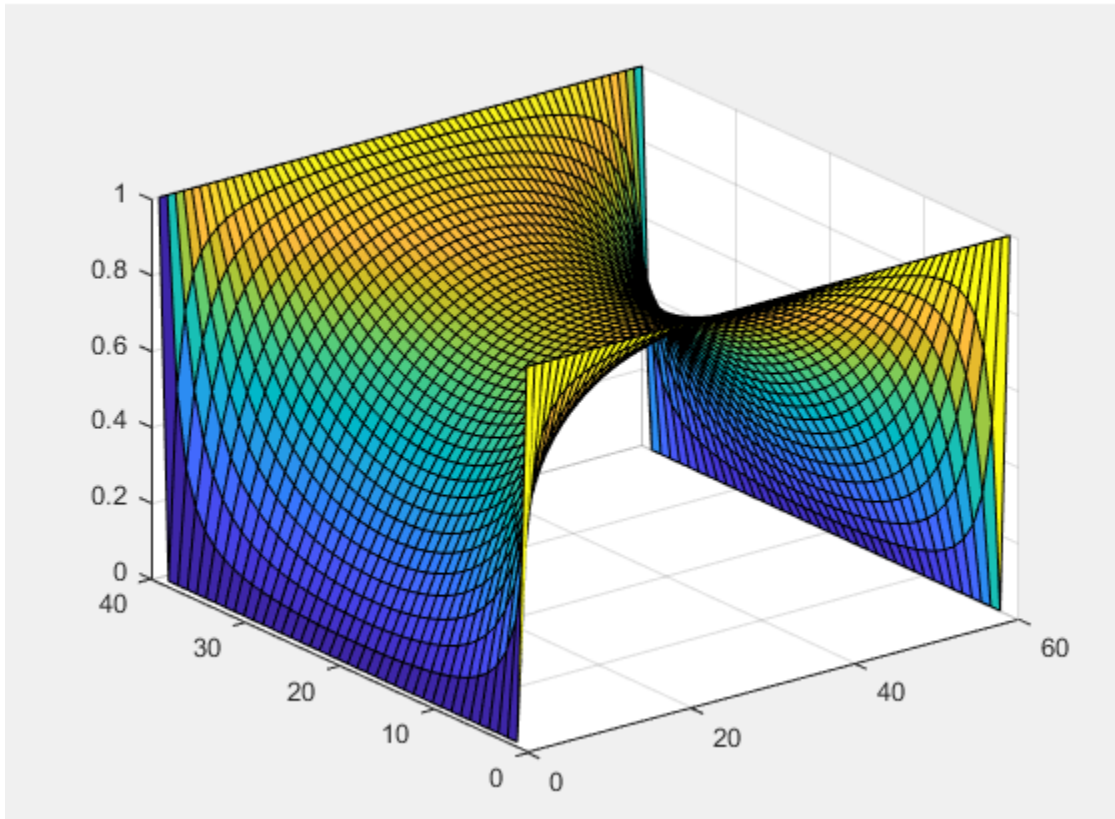

Figure 2: Voltage model for device with fixed BCs on four sides (numerical solution)
- b. This part of the experiment was done with two methods; meshing, and analysis. Figure 2 below shows the model that was derived with the meshing method: